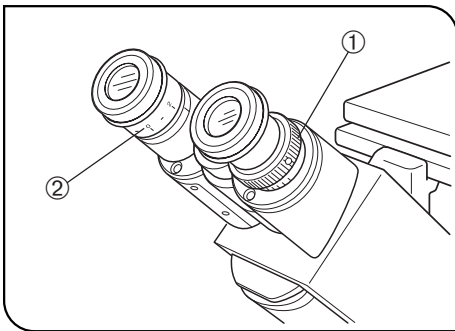

Fig. 15
(Figs. 15 & 16)
1. While looking through the right eyepiece, rotate the diopter adjustment ring ① on the right eyepiece sleeve until the peripheral area of the field of view is clearly visible. (Fig. 15)
3. Look through the left eyepiece and rotate only the diopter adjustment ring ② on the left eyepiece to bring the specimen into focus. (Fig. 15)
1. Looking through the left eyepiece with your left eye, rotate the top of the eyepiece ② until a clearly defined double crosslines can be seen in the field of view. (Figs. 15 & 16)
3. Looking through the right eyepiece with your right eye, rotate only the diopter adjustment ring ① to bring the specimen into focus.